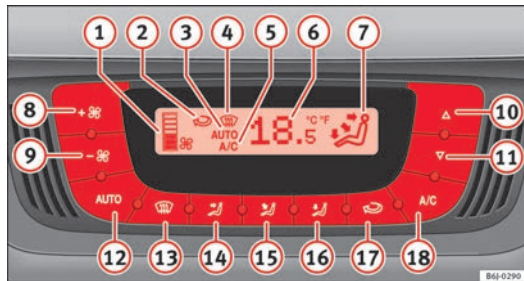

Fig. 104 Climatronic controls on the dash panel
- Press keys **10** and **11** ⇒ Fig. 104 to adjust temperature.
- Press the button **AUTO**. The indication \Rightarrow Fig. 104 **3** is displayed.
- Press keys **10** and **11** \Rightarrow Fig. 104 to adjust the desired temperature inside the vehicle. We recommend you adjust the temperature to 22°C (72°F).
- Press one of the buttons \Rightarrow Fig. 104 **14** to **16** or press the blower control **8** and **9** down. The indicator is switched off **3**.
The blower can be adjusted with buttons **8** and **9** \Rightarrow Fig. 104. If the blower is off (level **1** is not shown on the screen) and button **9** is pressed after 1 second, the Climatronic switches off.
- Press the button  to switch air recirculation mode on or off. This is ON if the symbol  ⇒ Fig. 104 is displayed on the screen.